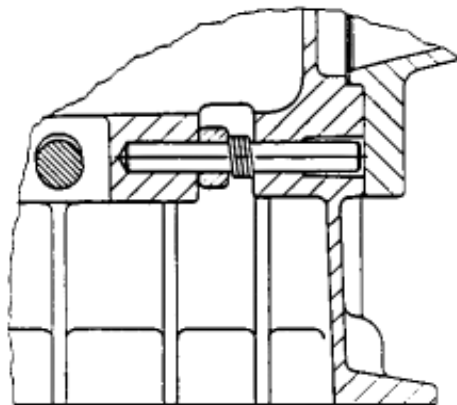

Figure 8.13 Typical parking brake shaft pin and spring
- g. Install the parking brake lever pin and spring. Refer to Figure 8.13. **Caution:** ensure the rake lever can rotate freely.